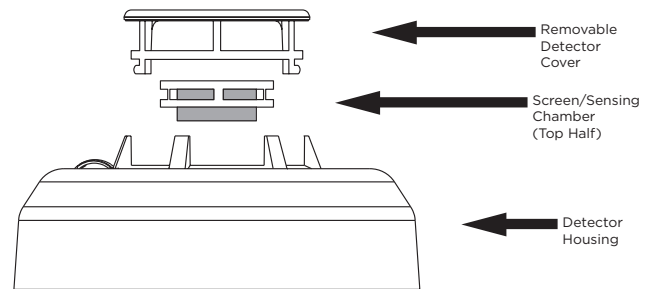

Figure 3: Detector Cover and Sensing Chamber
3. Remove the top half of the screen/sensing chamber by lifting straight up. See Figure 3.